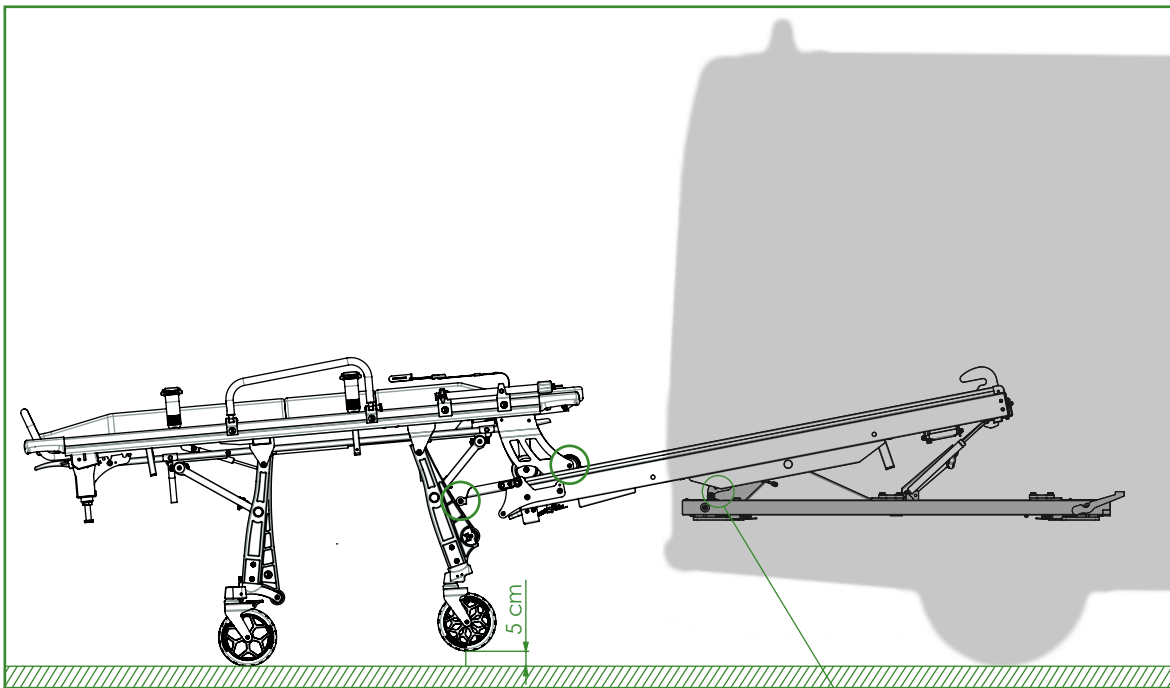

FIGURE 3
- Tilt the platform (as indicated in point 03.3.1) so that, when the stretcher is in this position, the front wheels are at least 5cm from the ground (see figure 3).